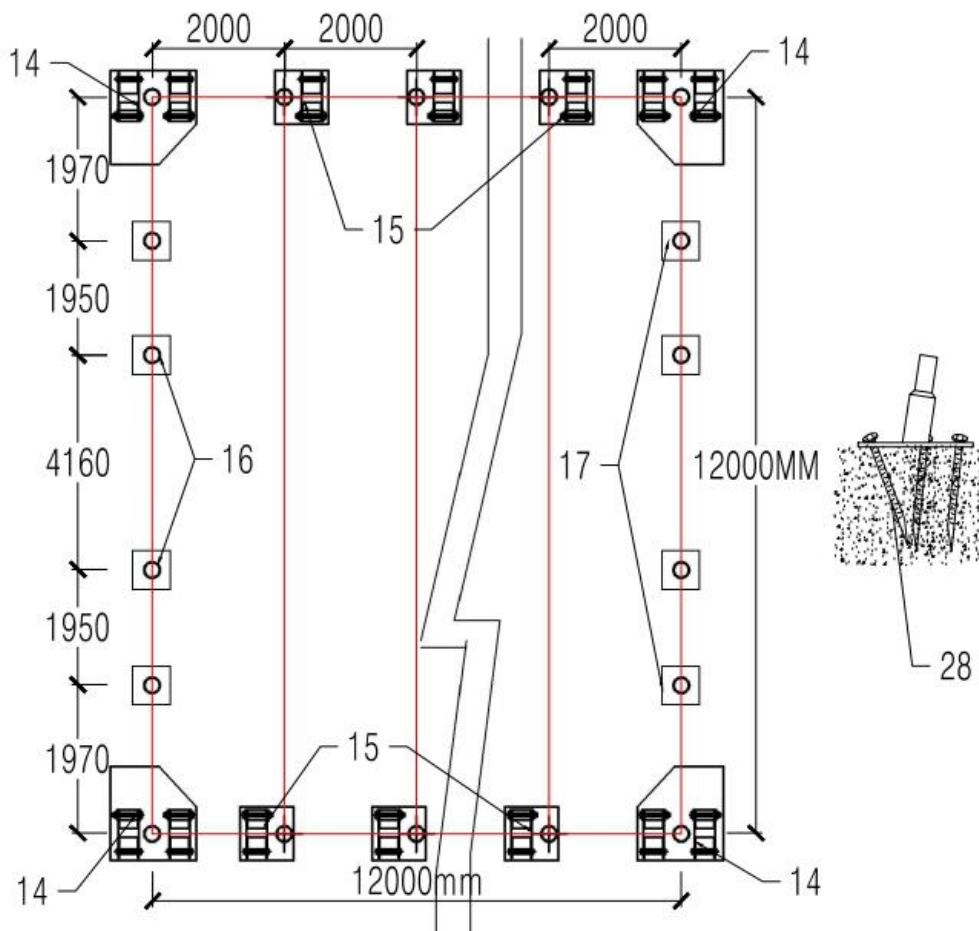

Figure 1
2. Please refer to the diagram (Figure 1) to place the base plates:
As **Figure 1** shows each base plate is equipped with 3 pieces of Stake pegs.(No.28) .